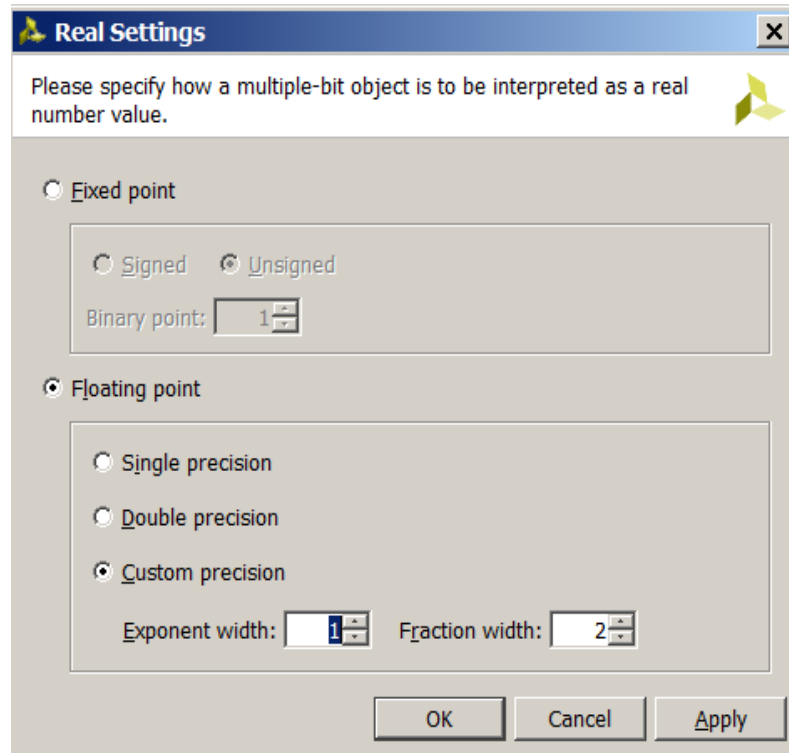

Figure 4-2: Real Settings Dialog Box
1. Right-click an HDL object in the Name column of the waveform configuration window and select **Radix > Real Settings** from the drop-down menu to open the Real Settings dialog box (shown in Figure 4-2.)